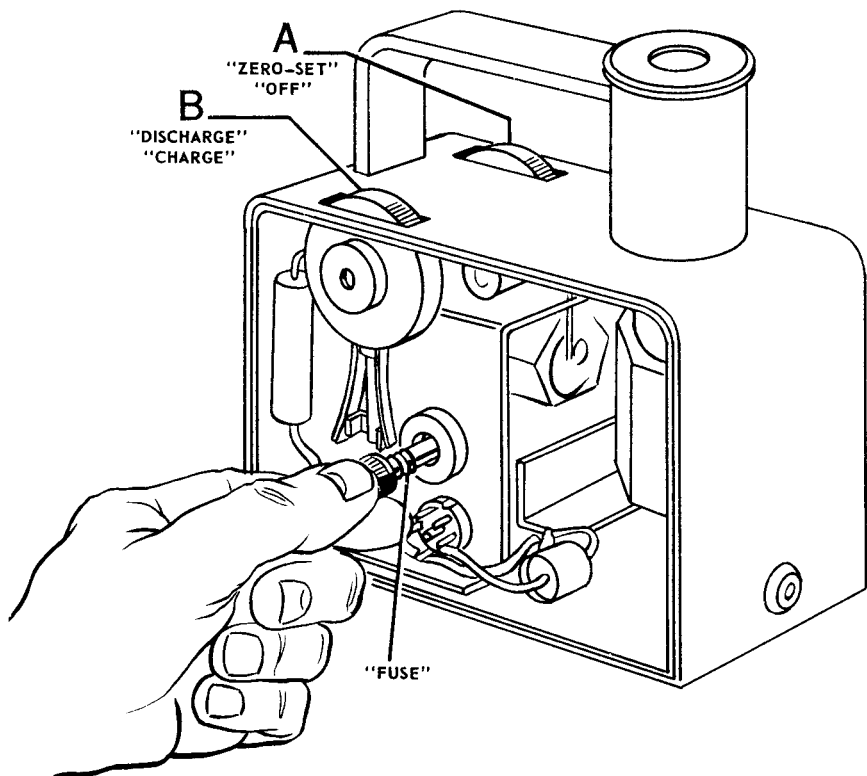

Figure 3. Operating Controls and Fuse Replacement.
- (1) Remove side plates.
- (2) Unscrew cap marked fuse, Figure 3, page 9.
- (3) Remove the fuse and replace.
- (4) Reassemble.